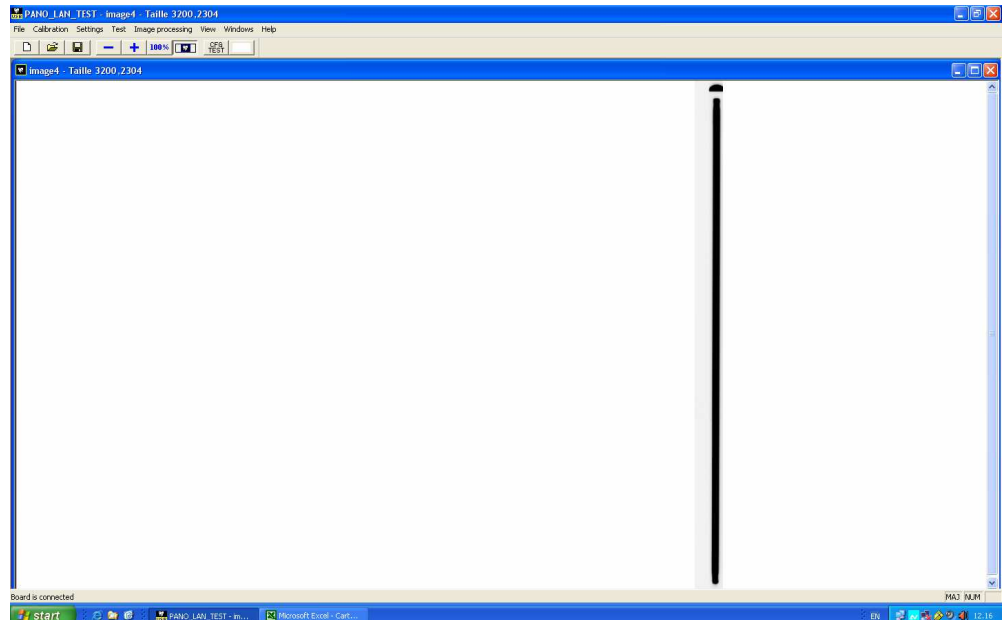

Figure 9-28
- 38.** Take X-ray pressing the X-ray button and check if in the obtained narrow image the projection of the slit of the centering tool is vertical and centered with the arc (Figure 9-28 and Figure 9-29).